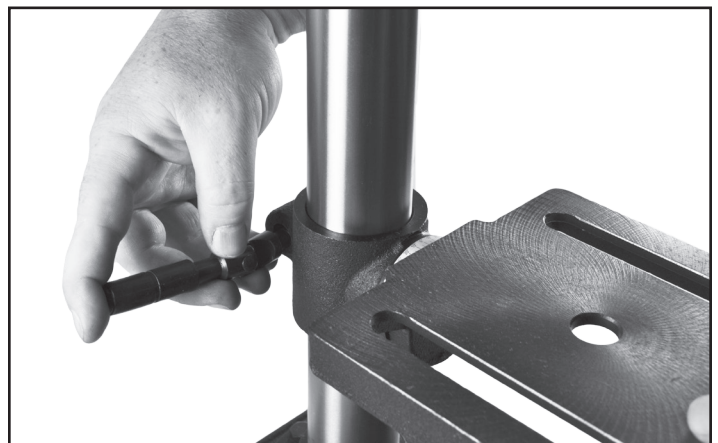

FIG. 2
2. Slide the table onto the column and install the table lock handle through the un-threaded hole on the left of the table support casting. The handle should engage the thread on the right side of the table support casting. FIG. 2.